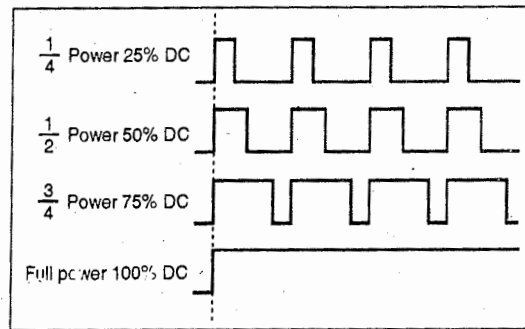

Fig. 11.7.5 : Pulse width modulation comparison
- Fig. 11.7.5 shows pulse width modulation comparisons.